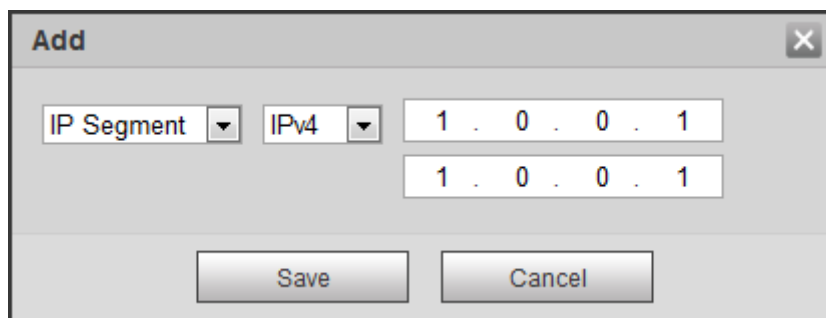

Figure 5-149
- Edit: Click it to edit start address and end address. See Figure 5-149. System can check the IP address validity after the edit operation and implement IPv6 optimization.